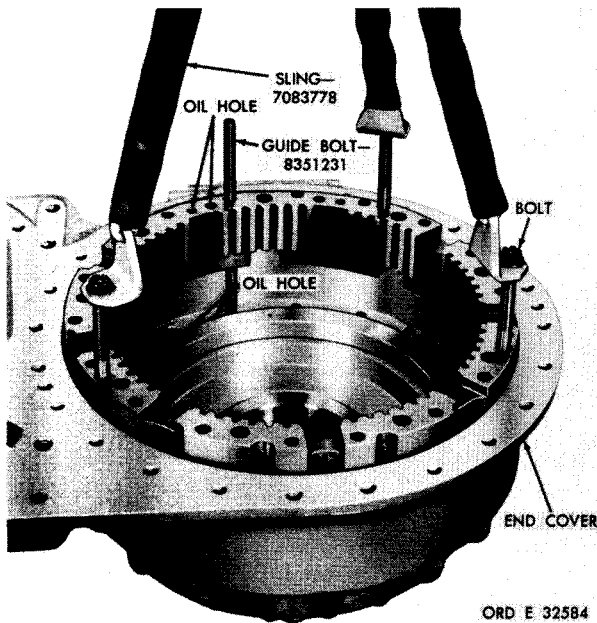

Figure 165. Installing steer clutch anchor
j. Using sling 7083778 and three 7/16-14 bolts, install the steer clutch anchor (fig. 165).